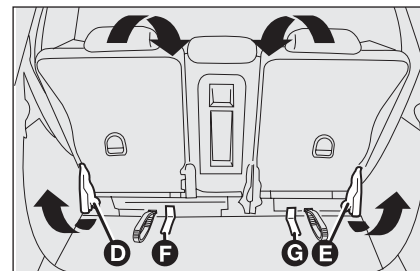

fig. 112
- use the levers **D** and **E**-fig. 112 to fold the rear cushions;
- use the ribbons **F** and **G**-fig. 112 to fully fold the seats.